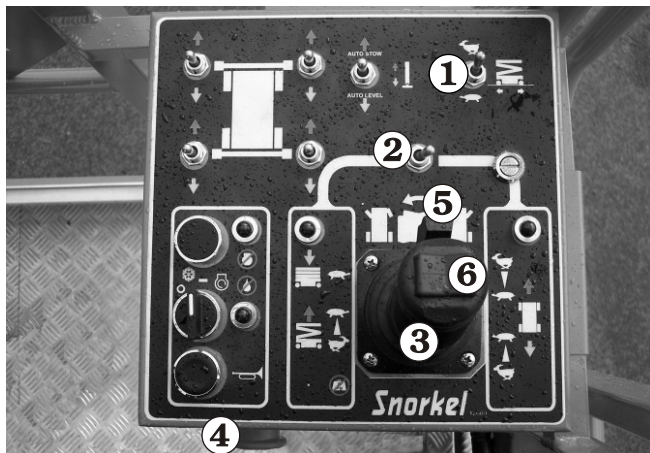

Figure 8.18
2. Set the **Speed** switch ① to turtle (slow) (see Figure 8.18) if you are going to be driving close to other objects or need to move the S3970RT / S3370RT / S2770RT very slowly for other reasons.
3. Set the **Lift/Drive Selector** switch ② to drive (right) (see Figure 8.18).
4. Squeeze and hold the **Safety Control** ⑤ against the Joystick Controller ③ (see Figure 8.18).
5. Push the Joystick Controller ③ (see Figure 8.18) slowly forward or pull it slowly backward, depending on which way you want to go. The further you move the joystick the faster the S3970RT / S3370RT / S2770RT moves.
6. To make a right or left turn, press and hold the **Steering** rocker-switch ⑥ on top of the Joystick Controller ③ (see Figure 8.18).